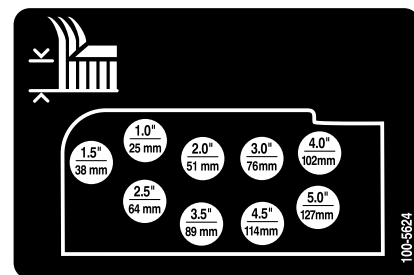

Figure 20
6. Mount the height-of-cut chains to the desired height-of-cut hole (Figure 20) with the clevis pin and hairpin cotter.